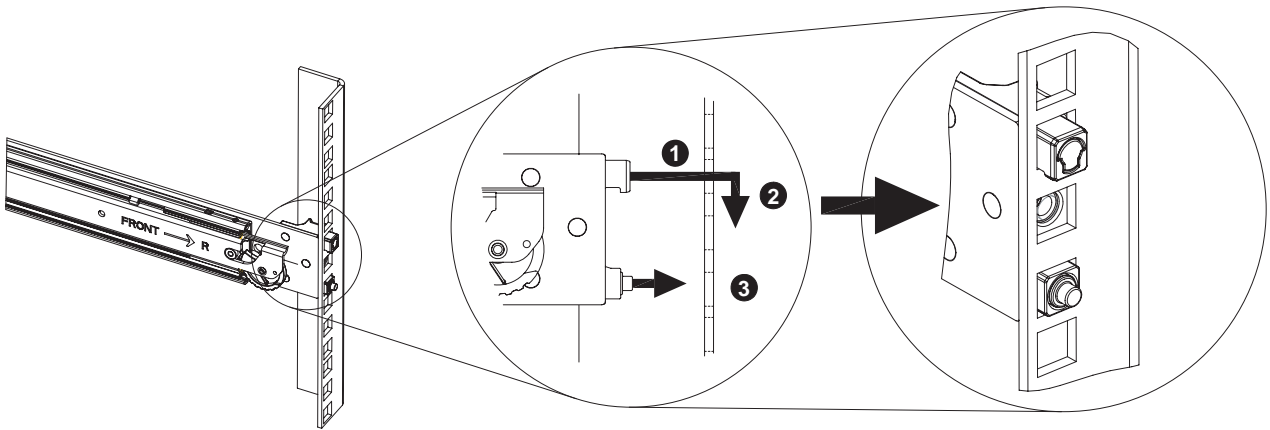

Figure C-1 Attaching Rail Slides to Rack
1. Attach the slide rails to the racks as shown in Figure C-1.